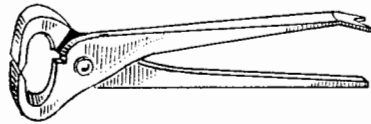

Fig. 216. Heel pincers or nippers.
**Nippers.** To have a complete set of tools, it is very necessary that *heel pincers*, or nippers (Fig. 216), be included. These nippers are used to remove worn layers, or lifts, of heels which need replacing. One handle of the nippers is usually fitted as a pry for loosening or raising lifts to enable the repairman to get a good grip.